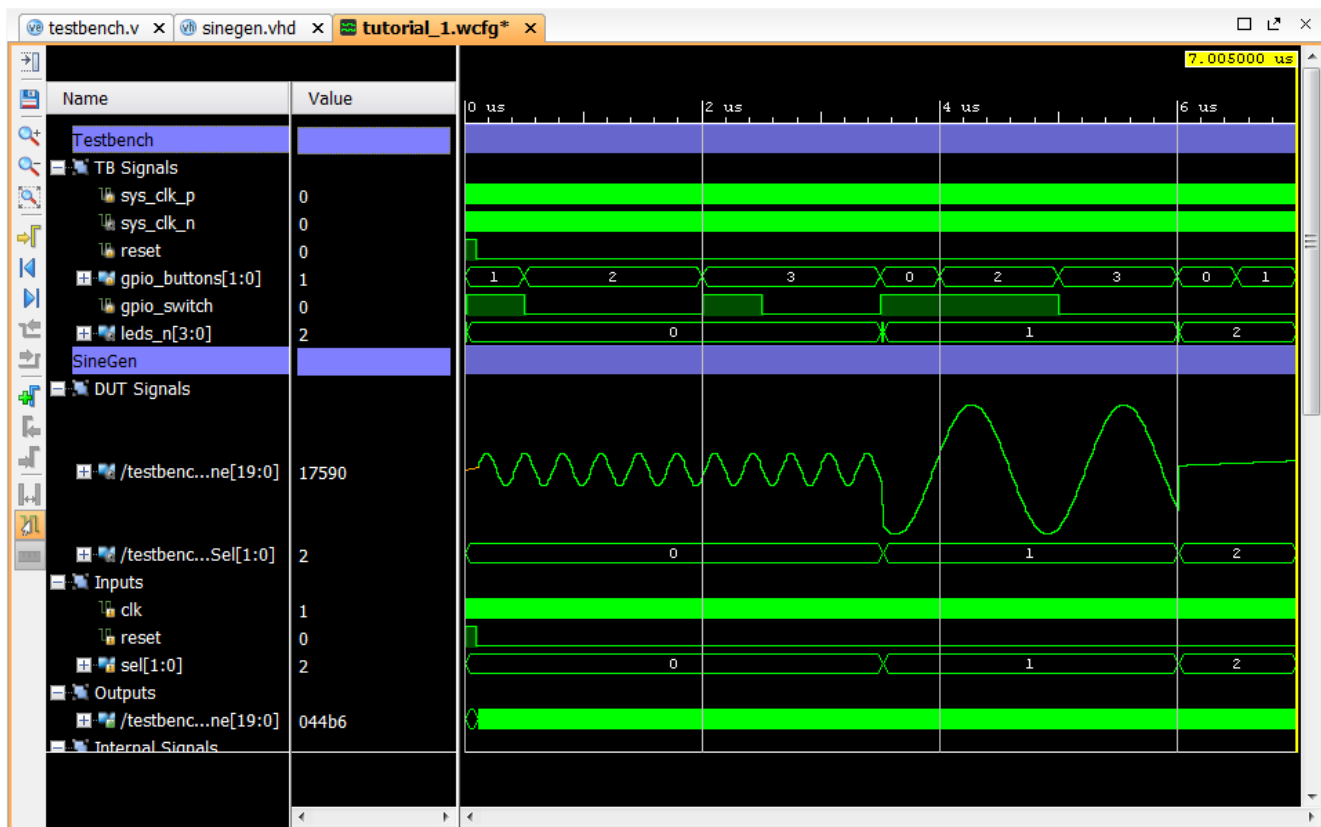

Figure 31: Corrected Low Frequency Output
- Click the **Run All** button  (Figure 31) to run the simulation.